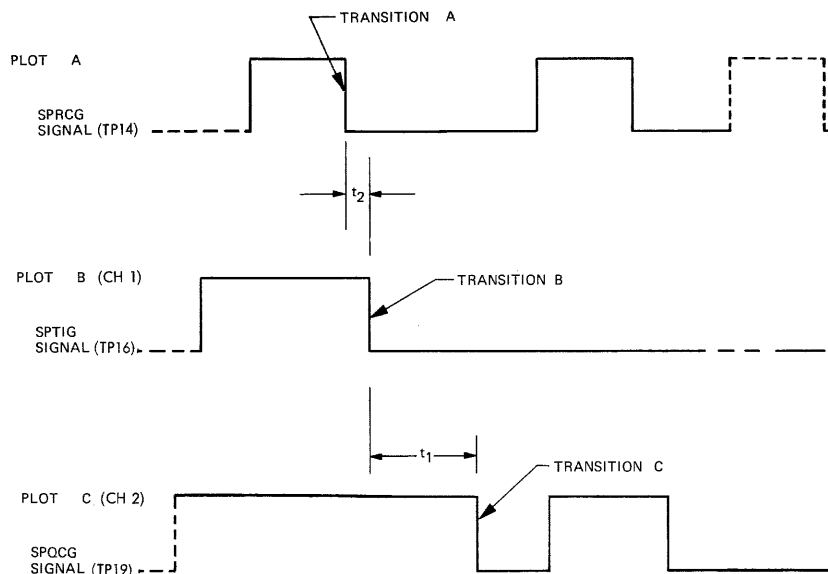

Figure 6-13. SPRCG, SPTIG, SPQCG Signals, Repetitive Restore Mode
This adjustment is used to correctly establish the relationship between the trailing edge of the Quadrature Clock (SPQCG) with respect to the trailing edge of the Index Logic Signal (SPTIG) as shown in Figure 6-13.
- (1) Observe the relative position of the high-to-low transition of signal SPQCG on Channel 2 (TP19) in relation to the high-to-low transition of signal SPTIG on Channel 1 (TP16). The waveform relationship must be approximately as shown in Figure 6-13, Plots B and C.
- (2) Connect Channel 2 test probe to TP14. Observe SPRCG on Channel 2 in relation to the high-to-low transition of SPTIG (see Figure 6-13, Plots A and B).
- (3) The high-to-low transition of SPTIG (Transition B of Figure 6-13) should occur at or after the low-to-high transition of SPRCG (Transition A of Figure 6-13), i.e., time  $t_2$  should be greater than or equal to zero seconds.
- (4) If the requirements of Steps (1), (2) and (3) are not satisfied, perform the adjustment procedure outlined in Paragraph 6.9.8.3, then repeat the foregoing steps prior to continuing this procedure. If adjustments to satisfy the above requirements cannot be made, replacement of position transducer scale may be necessary.
- (5) Change the oscilloscope settings established in Paragraph 6.9.8.1, as follows.
*The high-to-low transition of SPQCG (Transition C of Figure 6-14) should occur after a time delay ( $t_1$  of  $300 \pm 100 \mu\text{sec}$  after the occurrence of the high-to-low transition of SPTIG (Transition B of Figure 6-14). See Figure 6-13, Plots B and C, and Figure 6-14.*
- (1) Adjust Index Balance potentiometer R75 to position the trailing edge of SPTIG (TP16) to occur prior to the trailing edge of SPQCG (TP13) as shown in Figure 6-13.
- (2) Change the oscilloscope settings established in Paragraph 6.9.8.2, as follows.